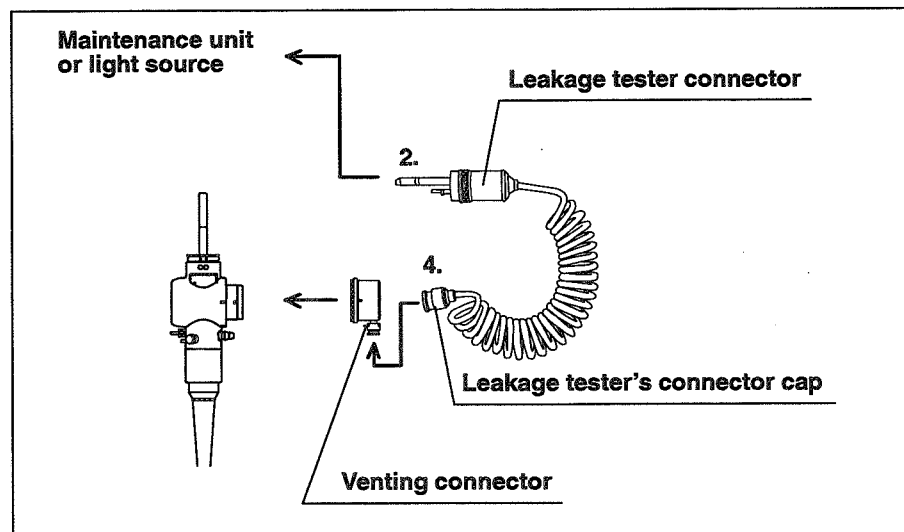

Figure 3.15
4. Attach the leakage tester's connector cap to the venting connector of the water-resistant cap (see Figure 3.15).